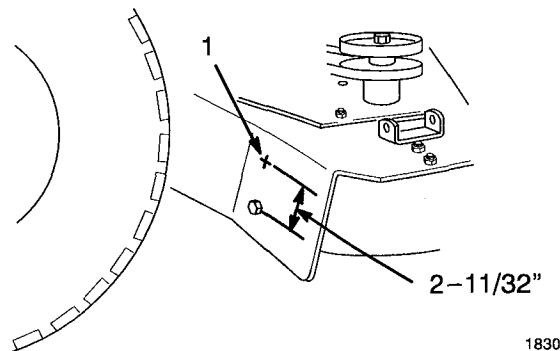

Figure 3
5. Mark and drill (1) 11/32 in. hole in rear of mower for spring bracket (Fig. 3).